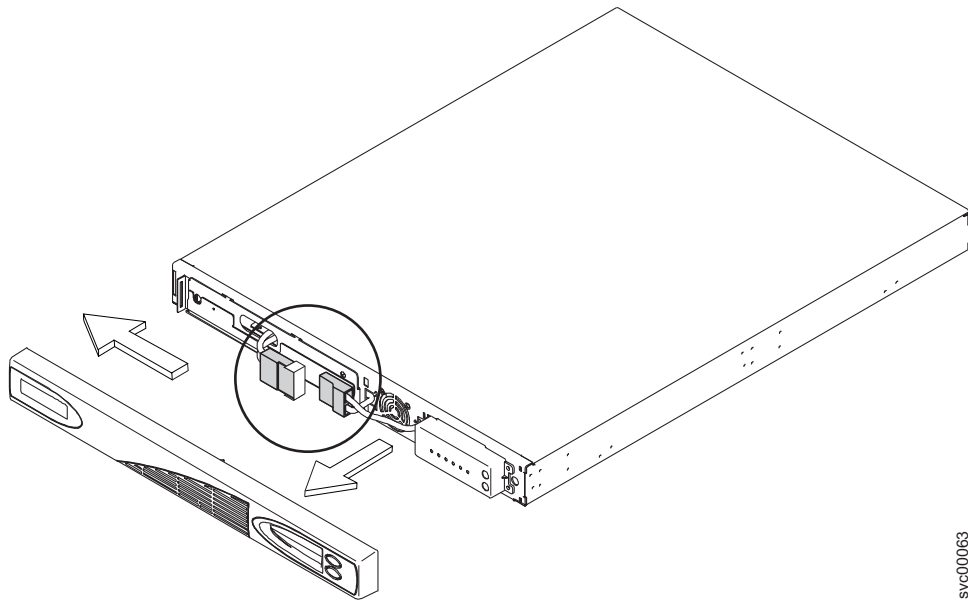

Figure 29. Removing the 2145-1U uninterruptible power supply front panel
3. If you have not already connected the internal battery connector, remove the 2145-1U uninterruptible power supply front panel, as shown in Figure 29.